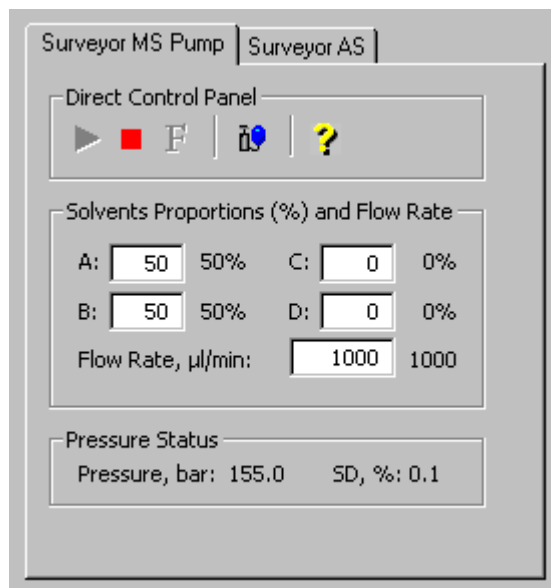

Figure 8-2. Inlet Direct Control view, showing pump On
- a. On the Control / Scan Mode toolbar, click on the AS/LC Direct Control button to display the Inlet Direct Control view in the top right corner of the workspace. See Figure 8-2.